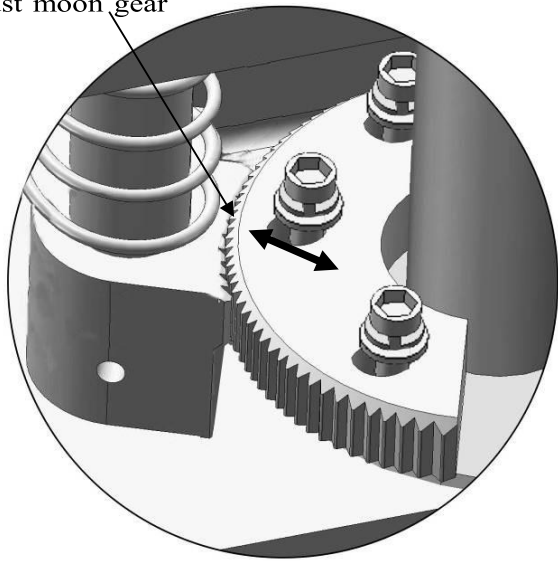

Fig. 25
3. Adjust the moon gear as arrow direction (See Fig. 25).